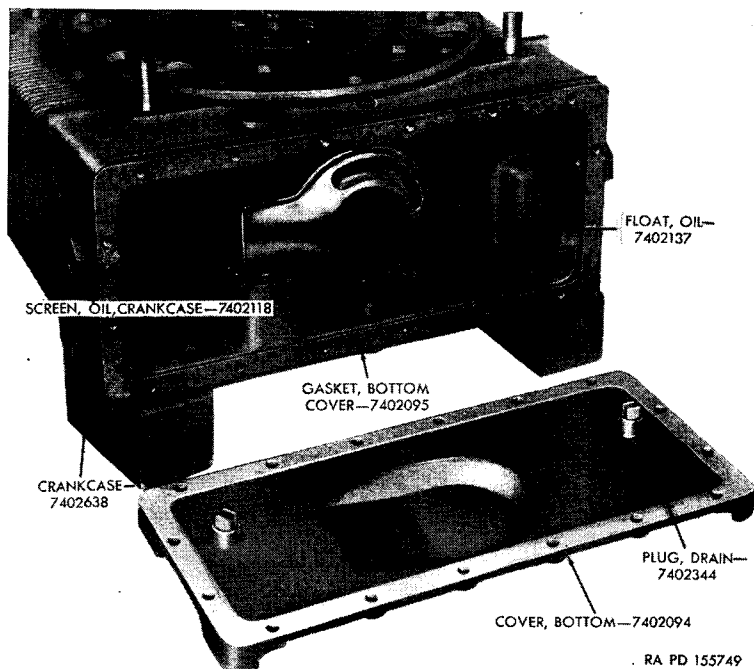

Figure 39. Crankcase oil float and oil screen.
b. Remove oil float; then remove four No. 1-24 x $\frac{5}{16}$ screws and lock washers and lift oil screen away from crankcase (fig. 39).